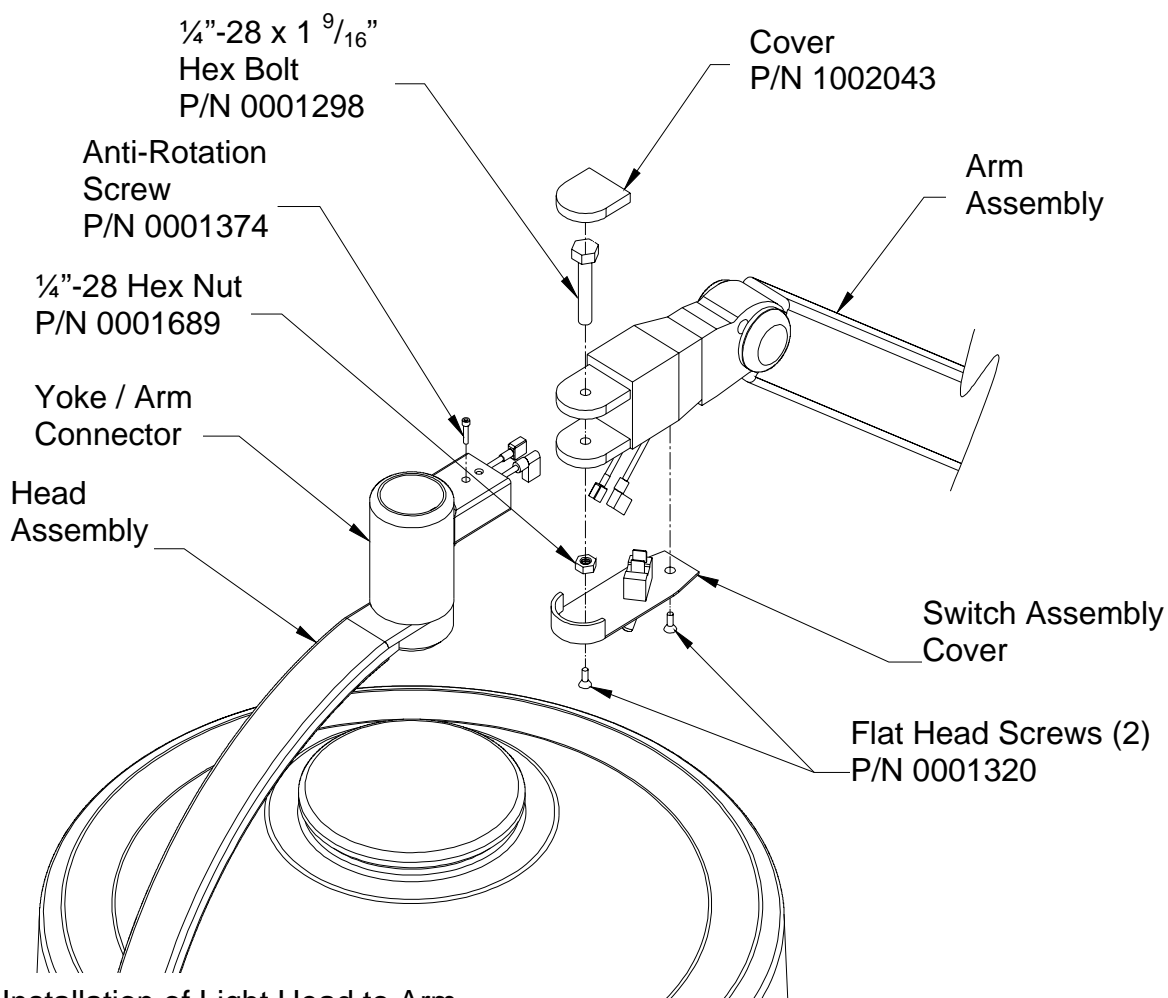

FIGURE 15: Installation of Light Head to Arm
- Remove the two screws from the switch assembly cover and pull downward exposing the switch and the wire connector. See figure 15.
- Press the snap cover onto the top of the hex bolt as shown on figure 15.